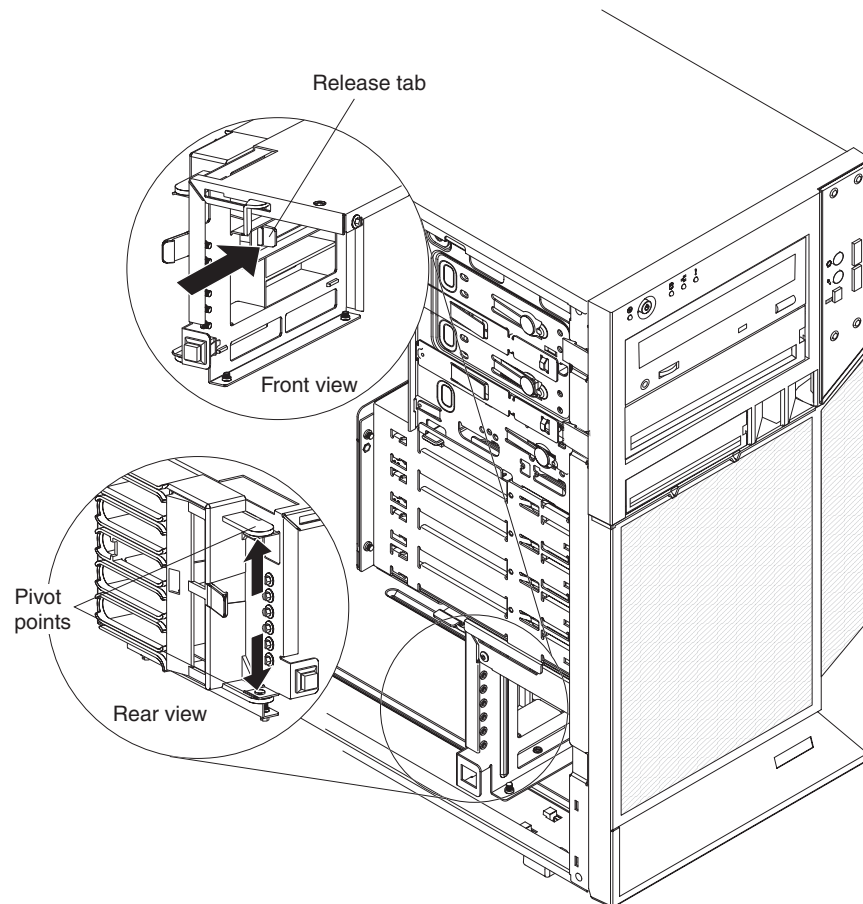

Figure 45. Removing front adapter-retention bracket
6. Push the top and bottom sides of the adapter-retention bracket out of the notches that secure the retention bracket to the chassis, (see Figure 45). Remove the retention bracket from the chassis.